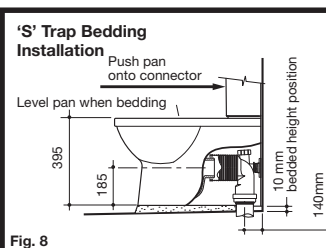

Fig. 8
- 4- Position and push pan into connector using the marked centre line on the wall as a guide and level pan into bedding mixture, so that the back of the foot of the pan is approximately 10mm above the finished floor as detailed in Fig. 8. It is recommended that wedges are used to support the foot of the pan during the positioning.